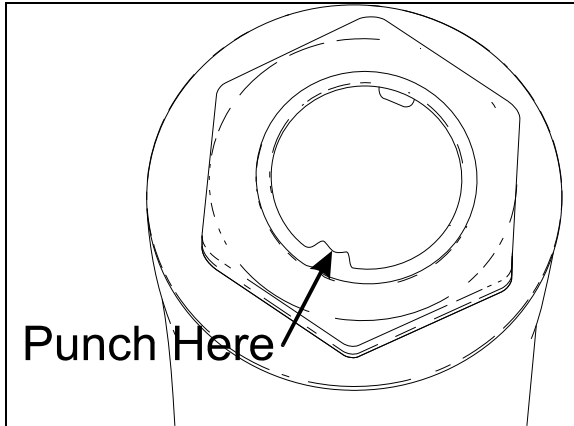

FIGURE 15: FIXING NUT PUNCH MARK
1. Lock nut with sector shaft using a punch mark into the groove (Refer to figure 15).